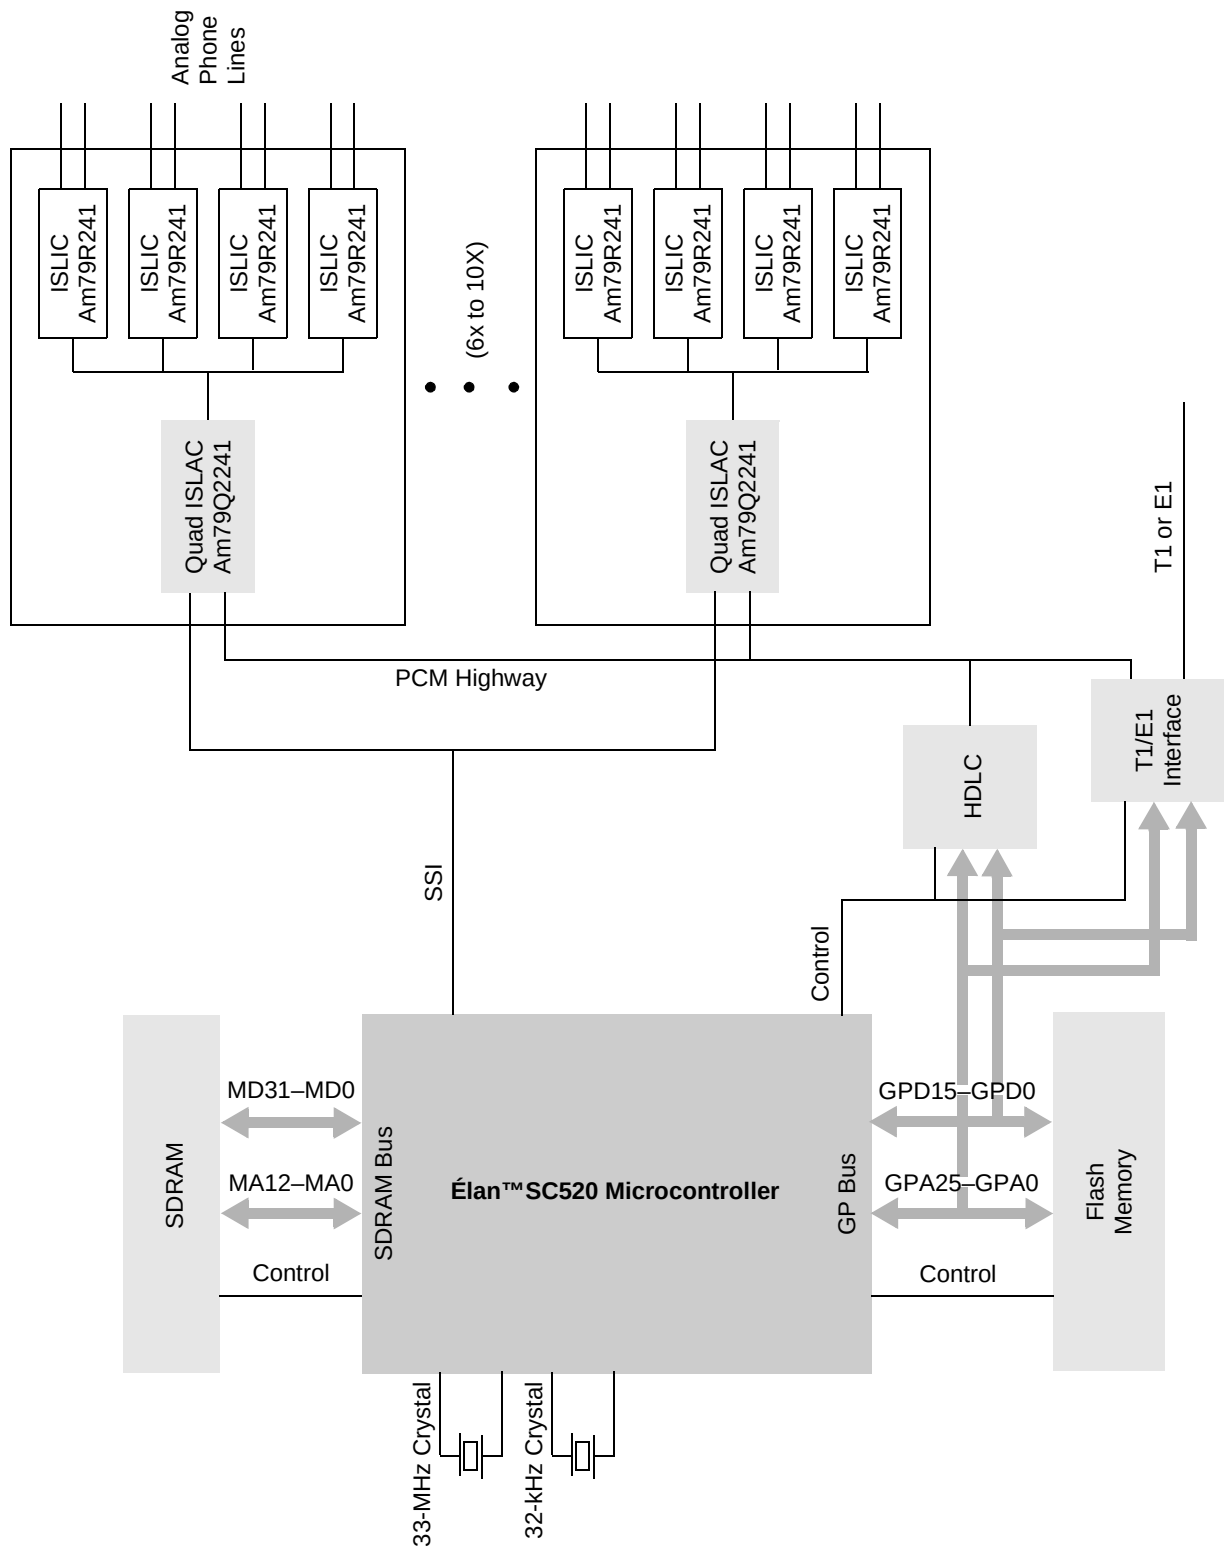

Figure 5. Élan™ SC520 Microcontroller-Based Telephone Line Concentrator Reference Design
- Figure 5 on page 37 shows an ÉlanSC520 microcontroller-based telephone line concentrator located in the neighborhood that converts multiple analog subscriber loops into a high-speed digitally multiplexed line for connection to the central office switching network.